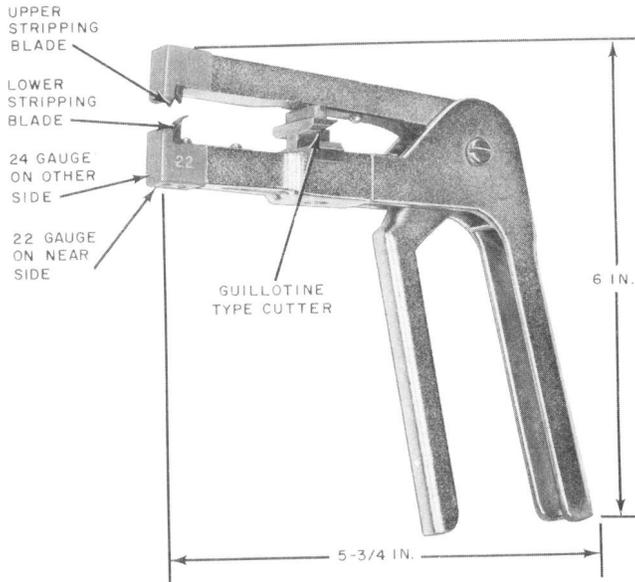

Fig. 4—KS-16902, L1, Wire Stripper Tool
2.04 KS-16902, L1: The KS-16902, L1, wire stripper tool (Fig. 4) is equipped with stripping blades and a guillotine-type wire cutter. The wire stripper is intended for use in cutting and stripping 22- and 24-gauge PVC-, BU-, or U-type wire for the application of wire-wrapped connections on central office distributing frames.